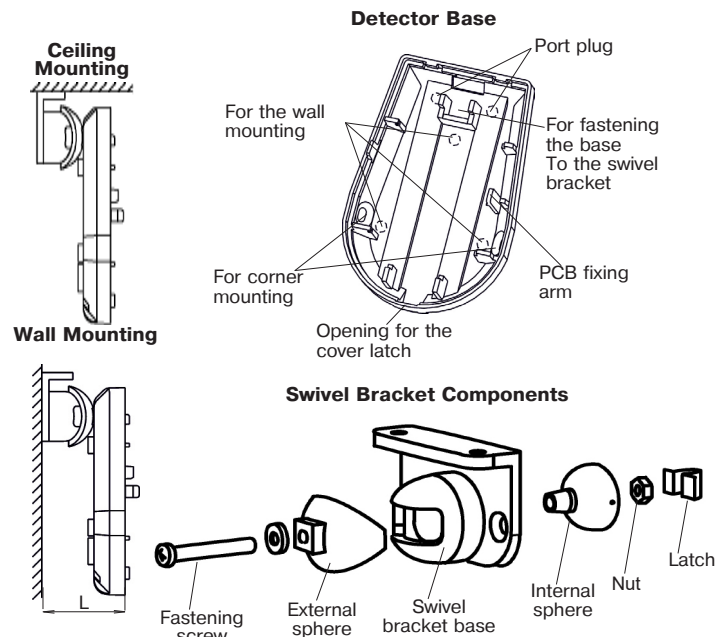

Figure 2 – Detector base and swivel bracket
- unfasten the latch through the opening, which is situated downside the detector case by means of screwdriver and put off the detector cover (Figure 2);
- drill the holes in the base of the detector for wiring and fastening the detector (Figure 2);